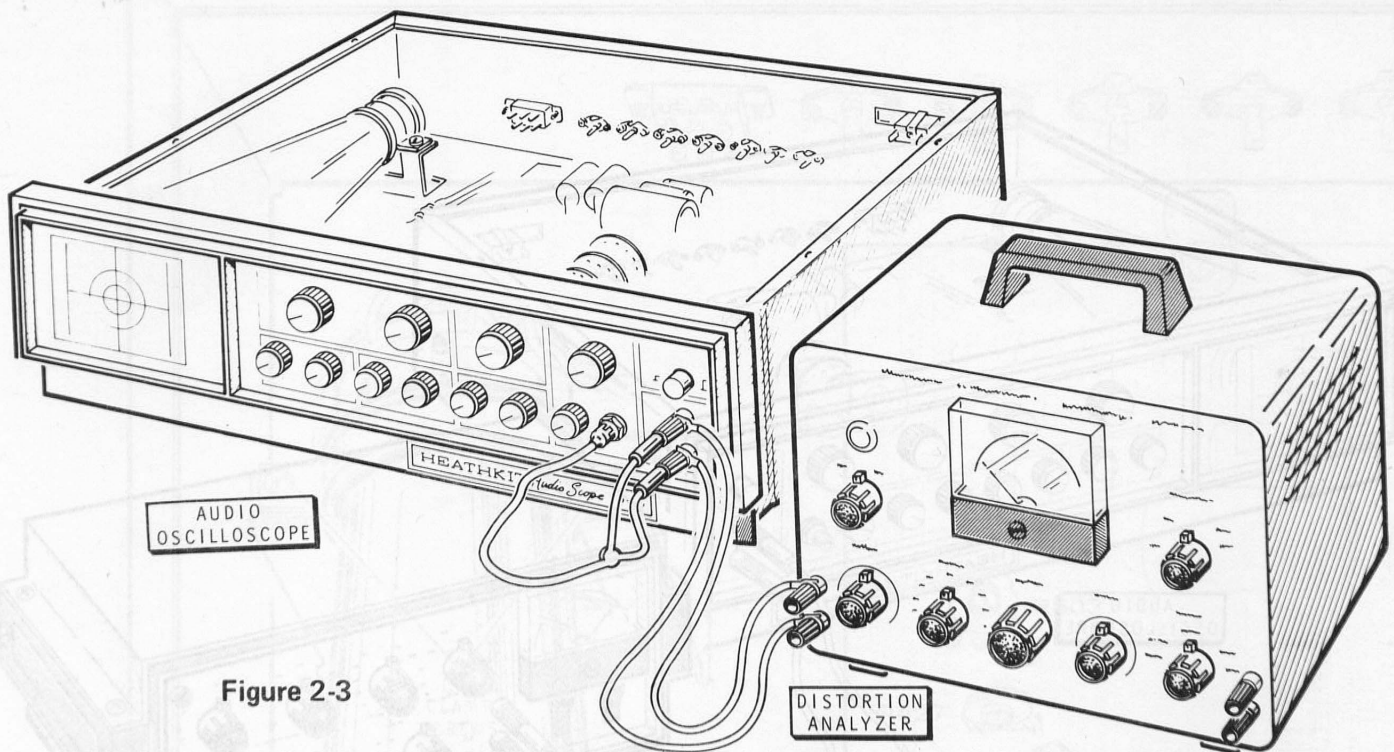

Figure 2-3
- ( ) Connect the Oscilloscope's OSCILLATOR OUTPUT to the SCOPE input and to your audio analyzer. See Figure 2-3.